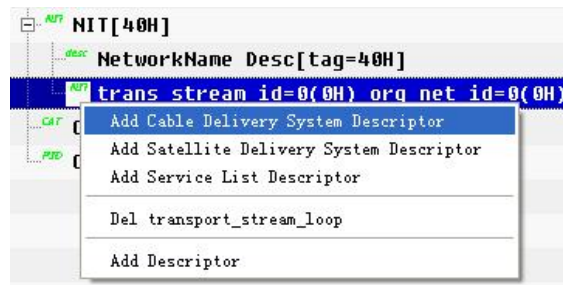

figure3-40
- 6、such as figure3-40, right click new stream then select 'trans\_stream\_id=...'